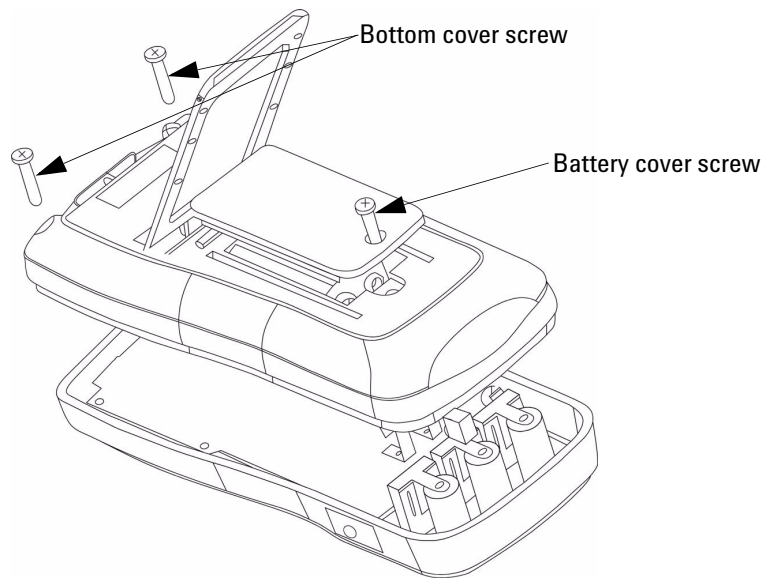

Figure 3-2 Fuse replacement
- 2 Loosen screws with a suitable screwdriver and remove the bottom cover as shown in Figure 3-2.